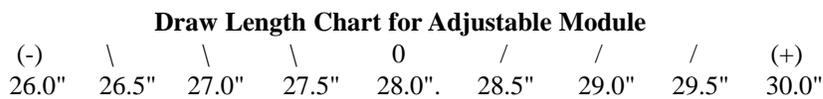

Figure 2
To check the bow for optimum tune it is suggested you have the draw length module adjusted to one of three (3) positions as illustrated in fig. 2 (-, 0 or +). With the module adjusted in the (0) position you would then check to see if the cables lined up with their corresponding tuning marks on the Cam and Control Wheel (fig. 2). If you chose (-) or (+) you would check those corresponding tune marks on the Cam and Control Wheel. Once the bow is tuned in this manner the draw length can be changed and the bow will remain in correct tune at all module adjustment locations.